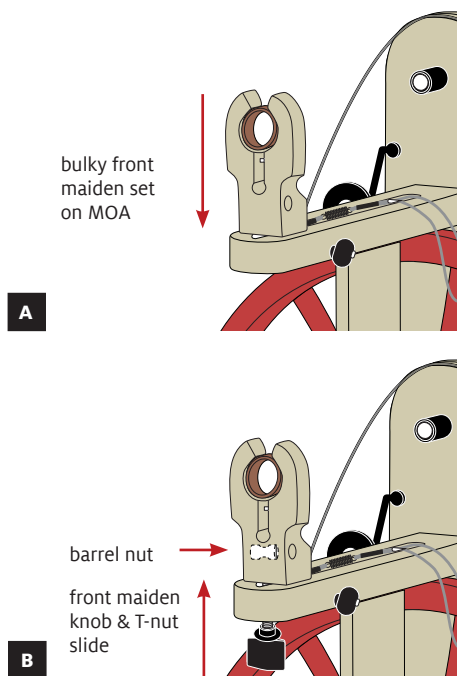

FIGURE 3: INSTALL BULKY FRONT MAIDEN
4. Orient the bulky front maiden as shown in Figure 3.